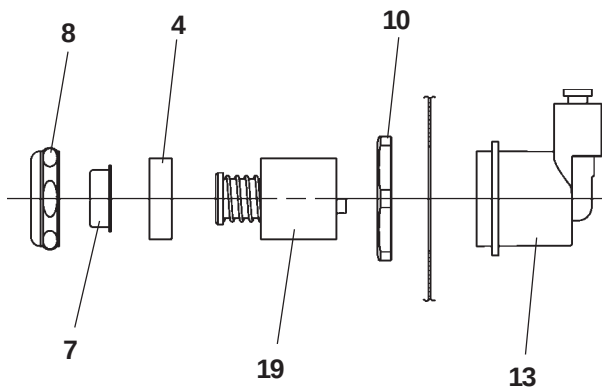

FIG. 3
STREAM HEIGHT ADJUSTMENT: Stream height is factory set at 35 PSI. If supply pressure varies greatly from this, remove items 7 and 8 (See Fig. 3) and adjust screw on item 19. Clockwise adjustment will raise stream and counter-clockwise adjustment will lower stream. For best adjustment, stream should hit basin approx. 6-1/2" from bubbler.